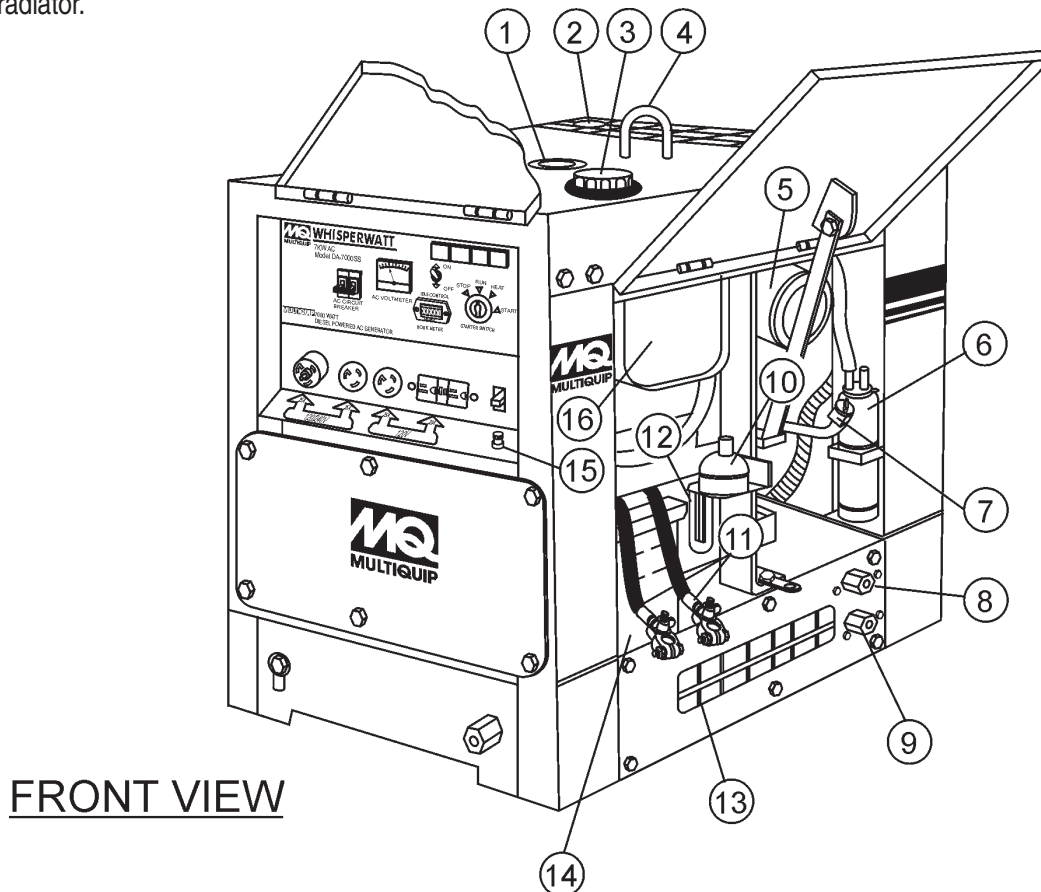

Figure 3. DA7000SS/SSW Components
Figures 3 and 4 show the basic controls and indicators for the DA7000 series generators.
Figures 3 and 4 show the location of the controls and indicators. The functions of each control or indicator is described below and on the preceding page.
2. When grounding the generators (Figure 3) connect the ground cable between the lock washer and the nut on the generators and tighten the nut fully. Connect the other end of the ground cable to earth ground.